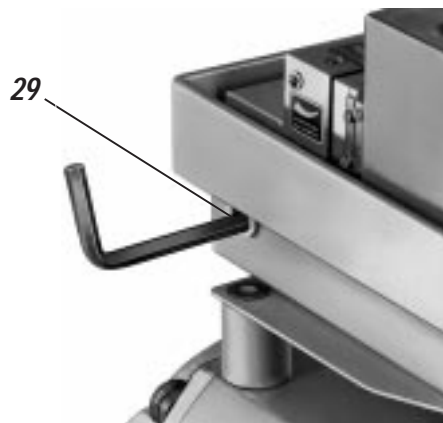

Fig. 19: Tightening feedback lever
- g) Final mounting of feedback lever **9** on shaft of positioner is performed at a stroke of 0 %, i.e. a rotation angle of 0°. First loosen 5 mm A/F Allen screw **15** of feedback lever **9** through hole **29** (see Fig. 19), then press stroke factor lever **31** against stop screw **30** (see page 23) and tighten Allen screw **15** firmly.